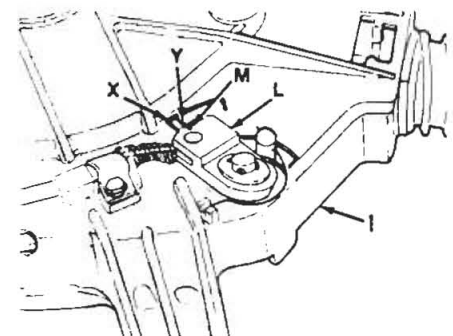

**Fig. SZ11-15—**Exploded view of manual starter assembly.
Refer to Fig. SZ11-15 for an exploded view of manual starter assembly. Starter may be removed as a complete unit by detaching the neutral start cable and removing the three cap screws securing starter assembly to power head. To disassemble starter, proceed as follows: Remove starter handle (16—Fig. SZ11-15) and allow starter rope (14) to slowly wind onto pulley (4). Detach neutral start components. Invert starter housing (1) and remove cap screw (17). Withdraw plate (10) and spring (9).
To place tension on rewind spring (2—Fig. SZ11-15), pass starter rope (14) through rope outlet in housing (1),